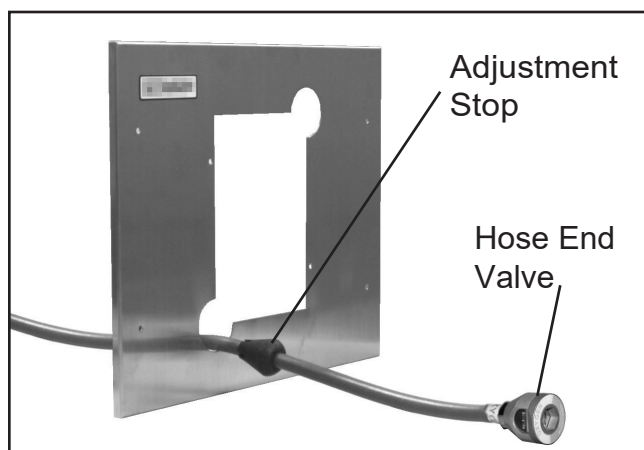

Figure 17
3. Route each hose-end valve and adjustment stop on hose assembly through opening in cover plate and into circular openings on each side of cover plate (Figure 17). Be certain cover plate is oriented properly to mounting box.